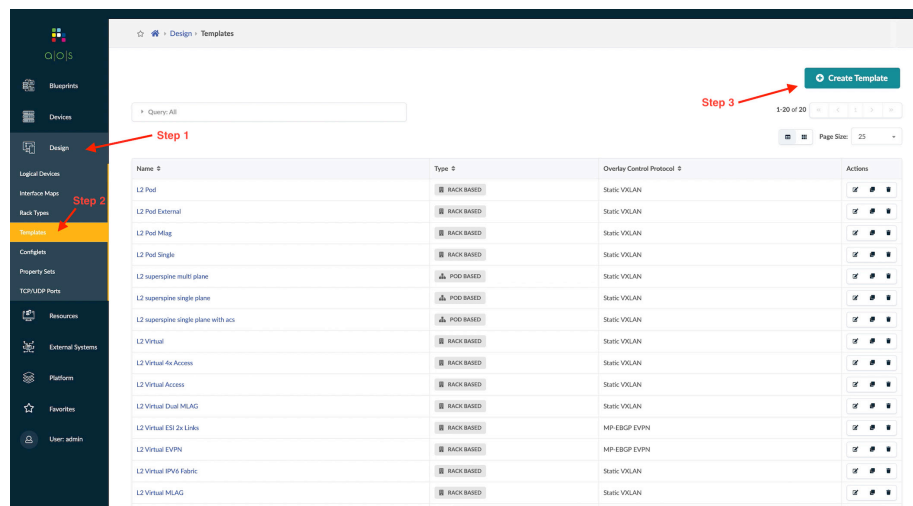

Figure 2.16 Creating DC Template
Step 1: Navigate to the Design menu. See Figure 2.16.